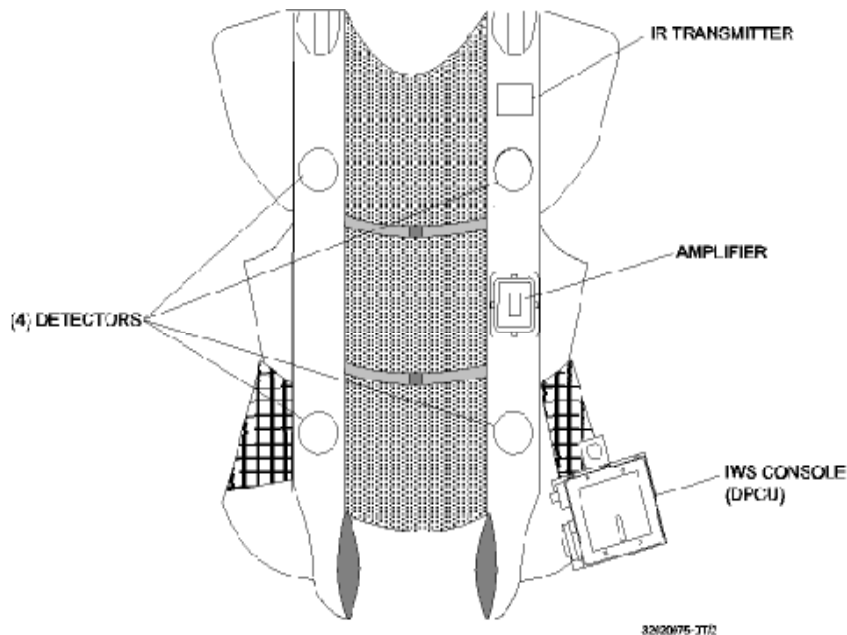

Figure 2-12. Torso Harness.
- g. Cut three (3) strips of fastener tape approximately two (2) inches long. Remove the backing paper and press the tape patches firmly onto the helmet where the primer was applied.
- i. Adjust the harness so the three (3) patches of fastener tape line up with the three (3) pieces on the helmet (ensure that there are no wrinkles or twists in the harness). Press the tape on the harness firmly against the tape on the helmet.
2.3.1.2 Torso Harness (See Figure 2-12.)